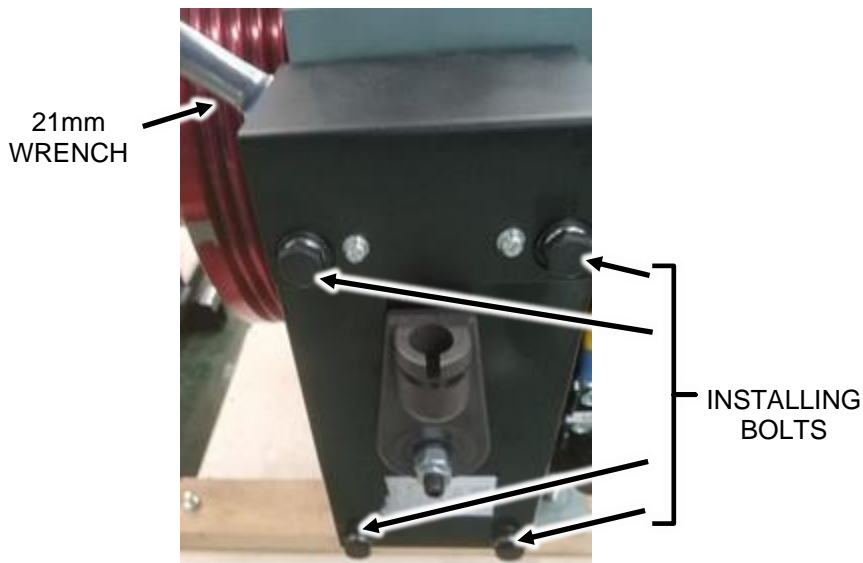

Figure 9
1. Loosen the 4 installing bolts clockwise with 16mm wrench until the guide screw can rotate. See Figure 9.